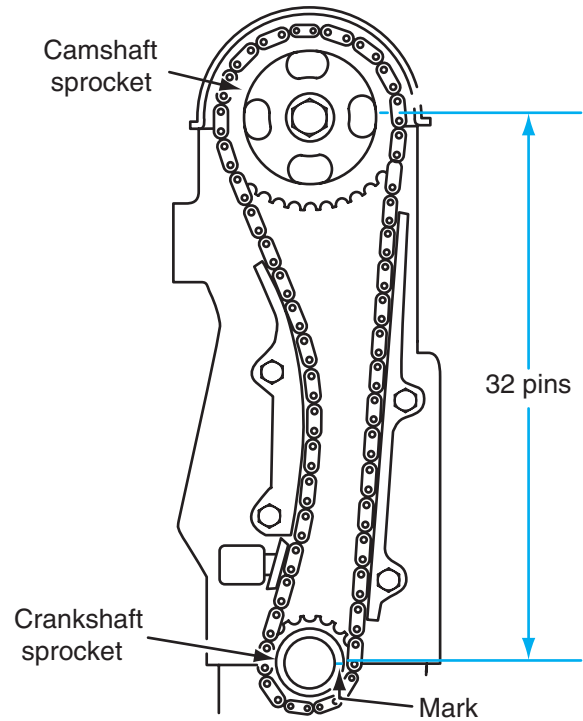

FIGURE 9.70 Some manufacturers specify a certain number of chain pins between the timing marks. In this case, 32 pins are counted.
- Some manufacturers specify a certain number of chain links between the marks (**Figure 9.70**).